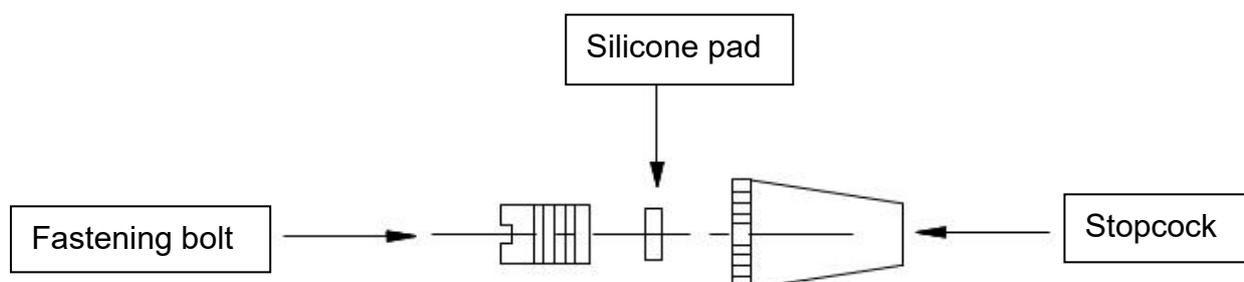

Figure 4-4 Assembly diagram of inlet stopper
(2) Put the milky white silica gel pad into stopcock, and use fastening bolt to screw uniformly. (see Figure 4-4)